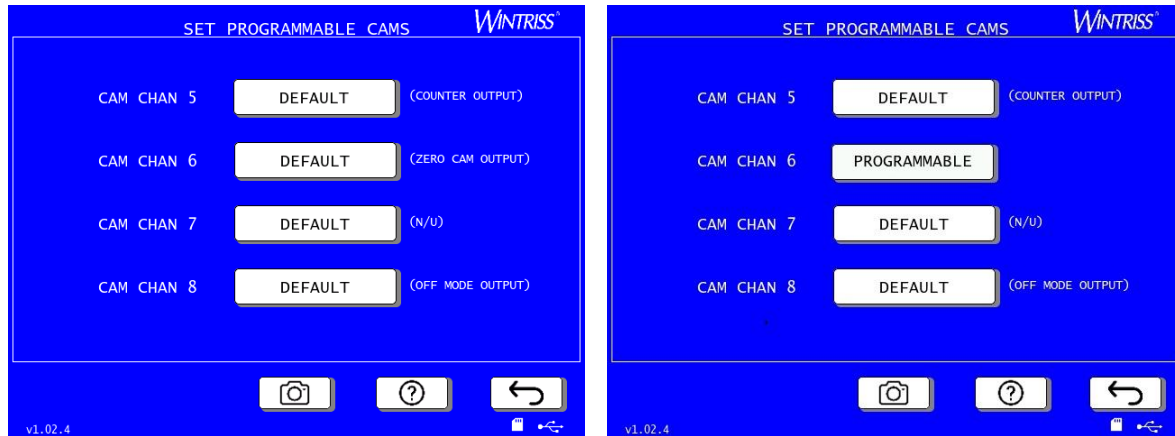

Figure 3-26. Cam Channel 5-8 Defaults (left) and Channel 6 Changed to “Programmable”
1. On the WPC Initialization Menu screen, Figure 3-2, press SET PROGRAM CAMS. The Set Programmable Cams screen appears, Figure 3-26.